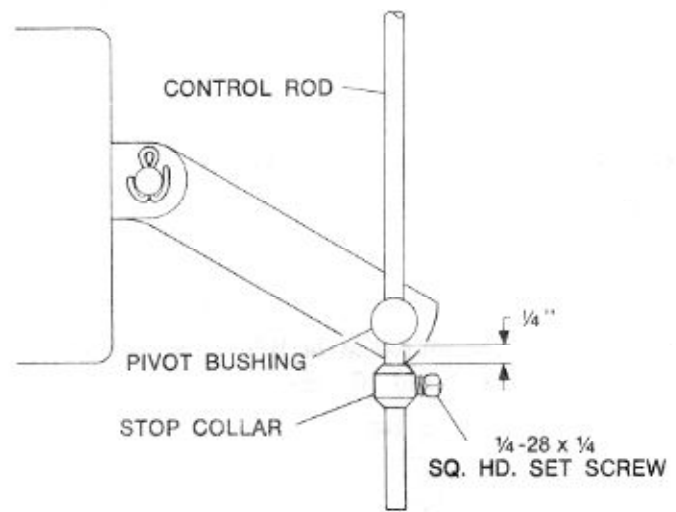

FIG. 10
- B. Move the stop collar to within $\frac{1}{4}$ " of the pivot bushing, Fig. 10, and tighten the set screw.